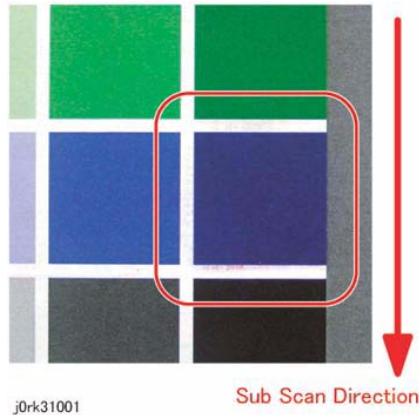

Figure 1 Heat Haze
- Heat haze occurs at the place where paper is stripped from the IBT Belt. Spatters of toner in small clouds are seen around the Solid Patch. (Figures 1 and 2)
- Pseudo-heat haze occurs as follows: the running paper rubs against the Holder DTS (Chute at the Transfer Exit) and is charged, thereby causing toner to scatter to the lead edge/trail edge of the solid area. Part of the spatters may form streaks. (Figures 1 and 3)